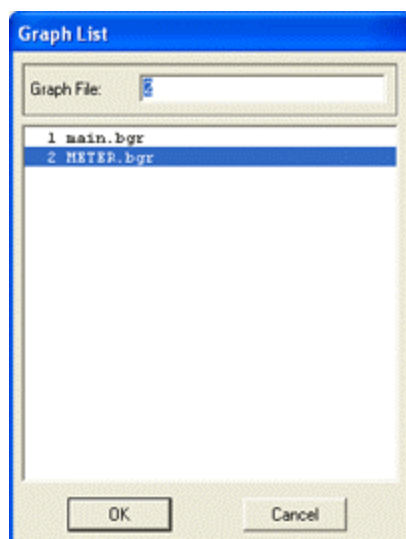
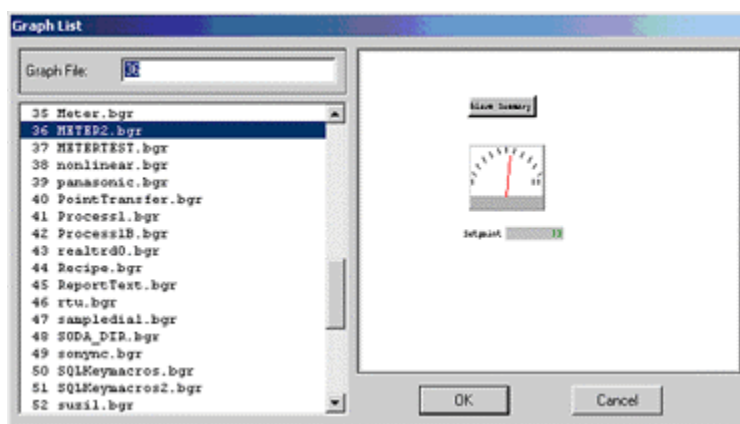

Figure 8.28 - Graph List Dialog Box - in VIEW
Figure 8.29 - Graph List with PREVIEW in ViewDAQ (non-web browser)
2. The **Graph List Dialog Box** pops open (Figure 8.28 or Figure 8.29).
4. **Double click** on the **Graphic name** in the Graph List Dialog (Figure 8.28 or Figure 8.29). For example, double click on Meter2.bgr.